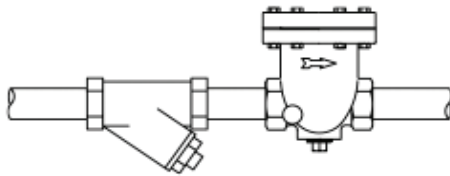

Figure 3. N650 Series Industrial Traps have either vertical or horizontal outlets. Pipe plug is for draining if there is danger of freeze-up.
8. Install an Emerson strainer, a dirt pocket or both, close to trap inlet. See Figures 3, 4 and 5.